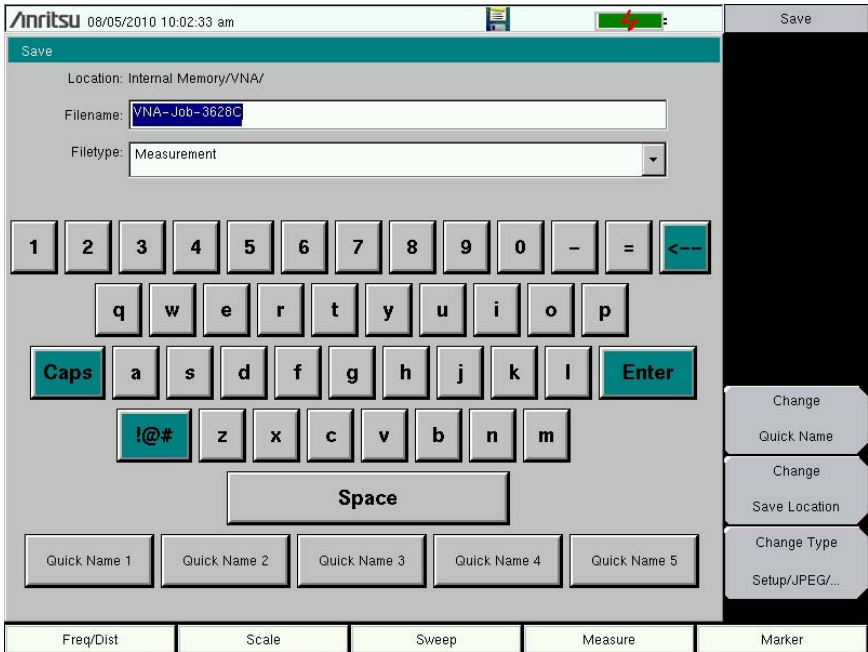

Figure 4-1. Save Dialog Box
The **Save Measurement As** key is used to quickly save measurements with a specific file name. The LMR Master saves the measurement with the latest file name that was used to save a measurement and with a number that is automatically incremented and appended to the end of the file name. For instance, if the last measurement was saved with the name **System Return Loss**, **Save Measurement As** saves the next measurement as **System Return Loss_#1**, **System Return Loss_#2** etc. The file name used can be changed using the **Save** dialog box (Figure 4-1).
The save dialog box (Figure 4-1) is used to store files on the internal memory or an external flash drive. The file type, file name, and save location are set starting with this display. Refer to “Save Menu” on page 4-9 and “Save Location Menu” on page 4-10 for details.
Quick Name keys (located below the keyboard in Figure 4-1) allow you to enter quick names for frequently used parts of file measurement names. To edit the keys, press the **Shift** key, then the **File** (7) key. Press **Save** then the **Change Quick Name** key, and select one of the Quick Names for editing. Press **Enter** and enter the new name for the key. Press **Enter** again, and the new name is displayed on the Quick Name key.